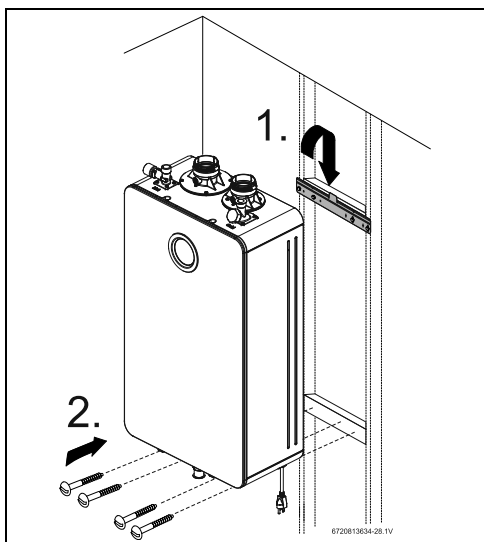

Fig. 9 Mounting the heater
- ▶ Hang the appliance on the bracket, see fig. 9.